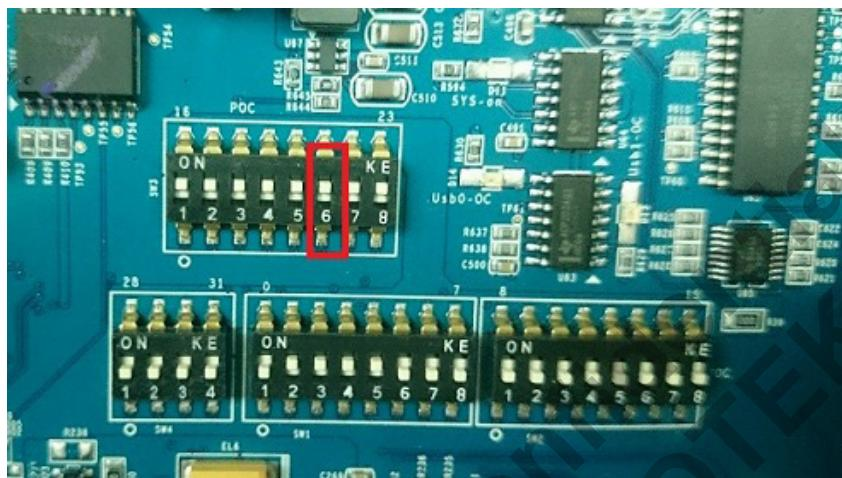
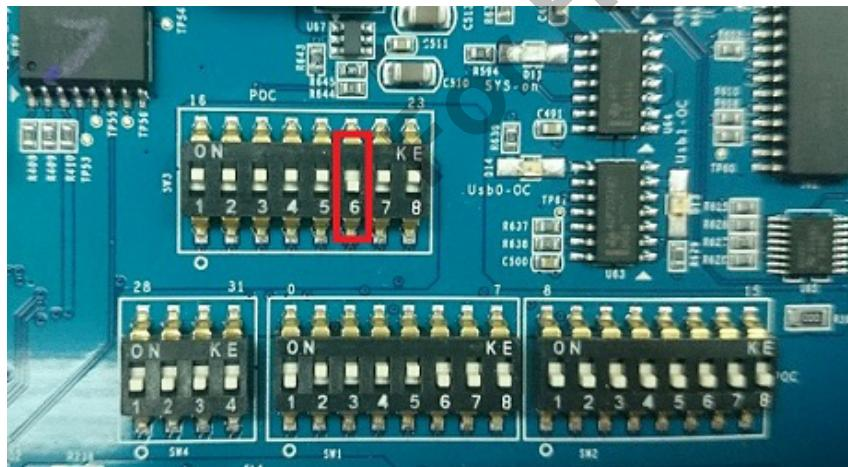

Figure 5-4. Switch No.6 of SW3 to ON for 32 Bit Firmware Burning.
Figure 5-5. Switch No.6 to OFF of SW3 for 64 Bit Firmware Burning.
1. Switch No.6 of SW3 for 32/64 bit firmware burning. (See Figure 5-4 and Figure 5-5).